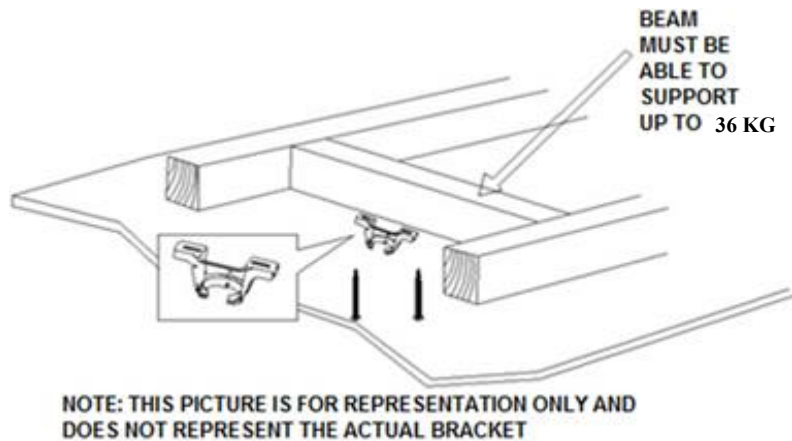

Fig. 2
- Install the hanging bracket to the ceiling joist or structure that is capable of carrying a load of at least 36kg, with two long screws provided. Ensure at least 30mm of the screw is threaded into the support. (Fig. 2)